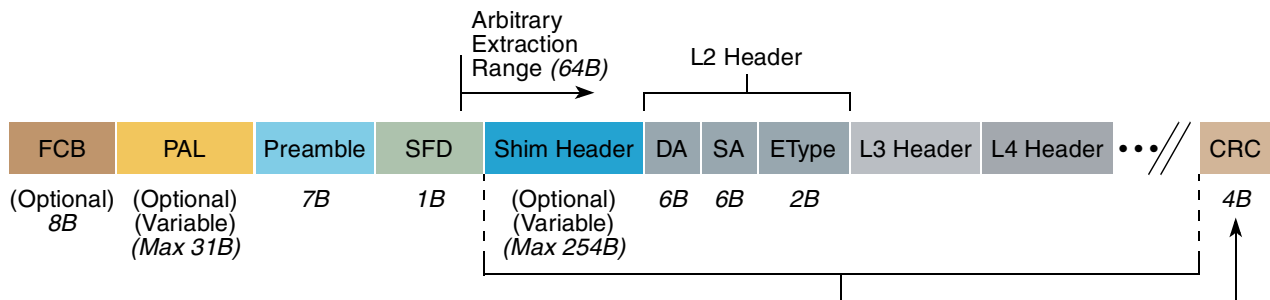

Figure 2. Ethernet Frame with Shim Header Present
- The CRC calculation is done over the entire frame, including the user defined shim header, as shown in Figure 2.
- The arbitrary extraction of L2 data begins 8 bytes before the shim header. (See the description of the receive bit field extract control register (RBIFX) in the eTSEC chapter of the applicable device reference manual.) As shown in Figure 2, because the arbitrary extraction offset is limited to 64 bytes, and the shim header can be up to 254 bytes, some of the shim header and L2 header may become inaccessible through arbitrary extraction.
Note that the appearance in memory of each of the portions shown in Figure 2 may be dependant upon that state of individual parsing enable bits. (For example, MACCFG2[PreAM RxEN] must be set for the preamble and SFD to appear in memory.)
- Packet alignment padding (configured with RCTRL[PAL]) is inserted before the user defined shim header, rather than the L2 header, if preamble extraction is disabled, as shown in Figure 2.